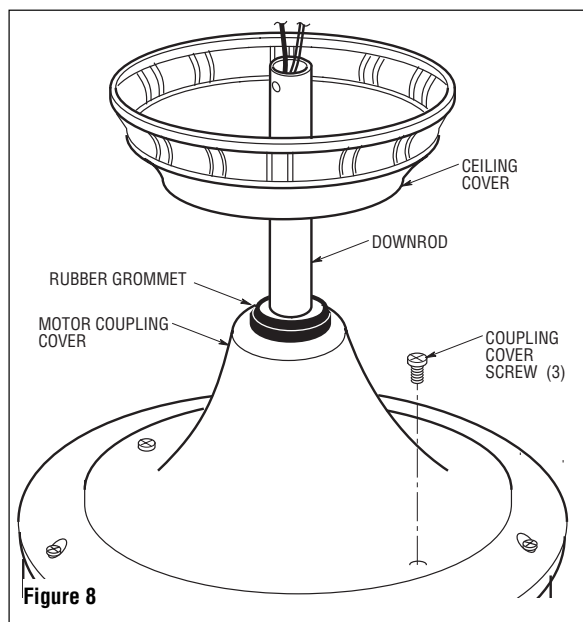

Figure 8
11. Make sure the grommet is properly installed in the coupling cover, then slide the coupling cover on the downrod until it rests on the motor housing. Place the ceiling cover over the downrod. Be sure that the ceiling cover and the coupling cover are both oriented correctly (Figure 8). Secure the coupling cover by reinstalling the three previous removed #8-32 x 12mm screws.